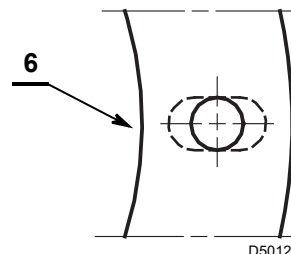
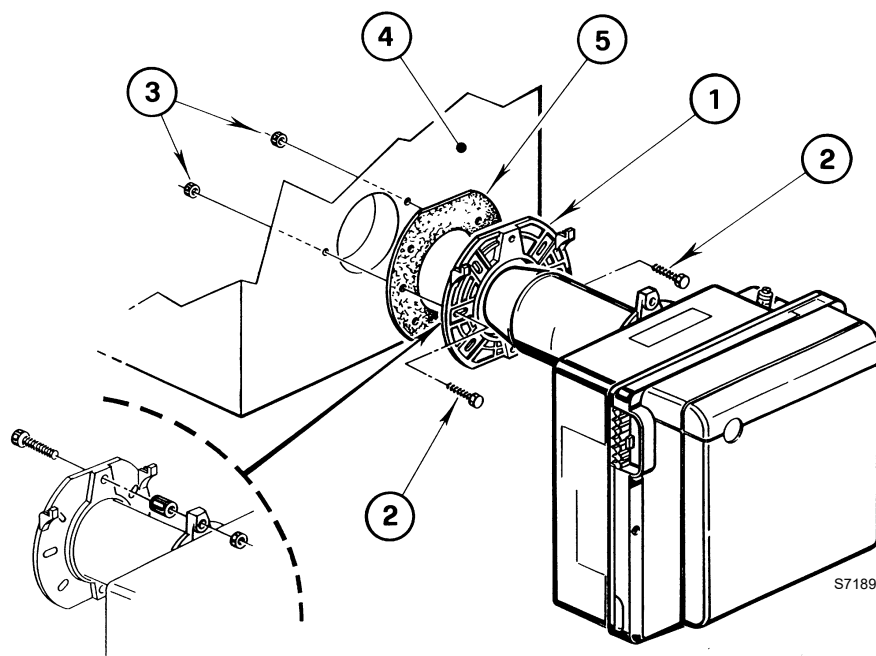

Fig. 7
Fig. 8
- Insert on the flange 1)(Fig. 8) the screw and the two nuts 3)(Fig. 8).
- If necessary, widen the holes 6)(Fig. 7) of the insulating gasket 5)(Fig. 8).
- To the door of the boiler 4)(Fig. 8) fix the flange 1) using the screws 2) and (if necessary) the nuts 3) placing the insulating gasket 5)(Fig. 8) in-between.